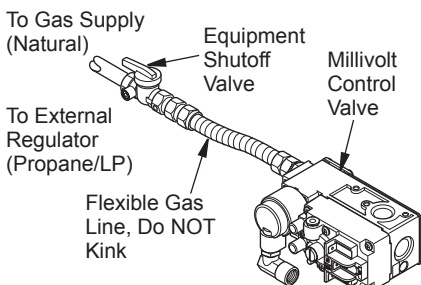

Figure 29 - Connecting/Disconnecting Gas Line to Millivolt Valve
1. Using a 5/16" hex socket wrench or nut-driver, connect or disconnect flexible gas line and control valve (see Figure 29, page 21).